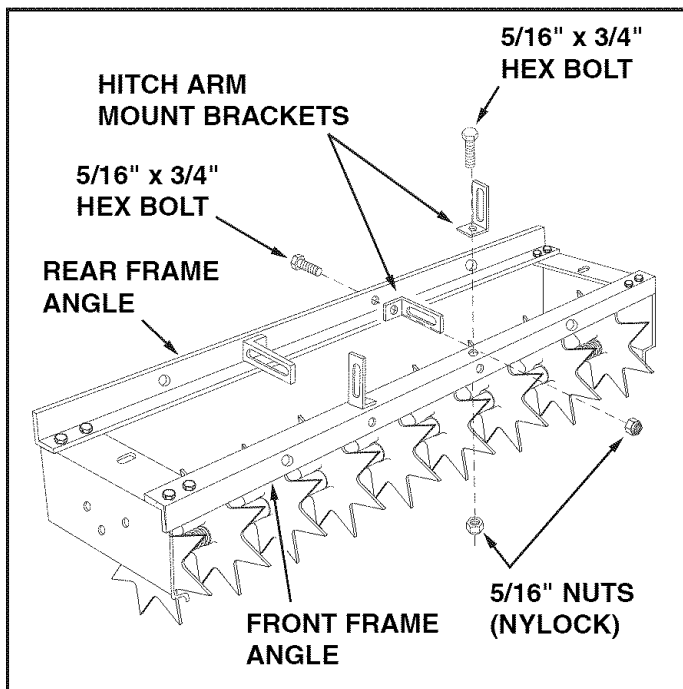
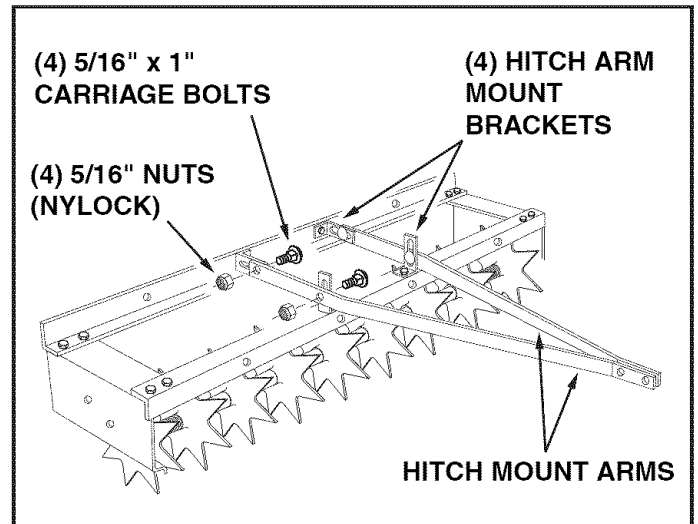
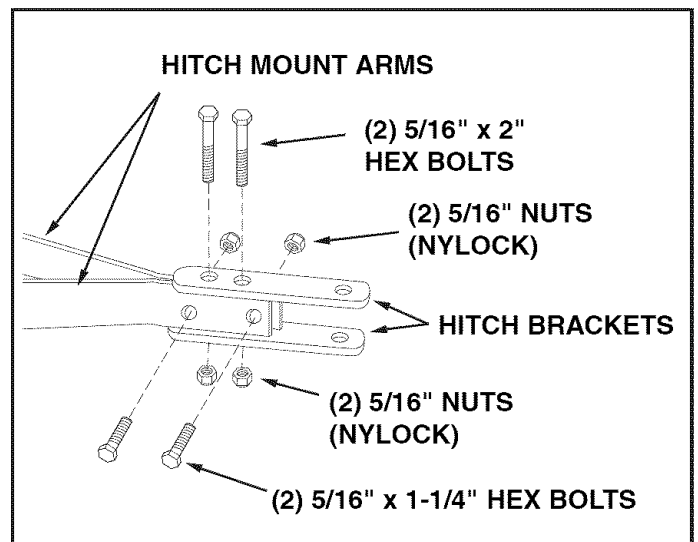

FIGURE 6
FIGURE 7
FIGURE 8
- Attach two hitch arm mount brackets to the middle holes in the rear frame angle using two 5/16" x 3/4" hex bolts and two 5/16" nylock nuts. **Do not tighten completely.** See figure 6.
- Attach two hitch arm mount brackets to the middle holes in the front frame angle using two 5/16" x 3/4" hex bolts and two 5/16" nylock nuts. **Do not tighten completely.** See figure 6
- Assemble the hitch mount arms to the **outside** of the four hitch arm mount brackets as shown in figure 7. Use four 5/16" x 1" carriage bolts and four 5/16" nylock nuts. **Do not tighten yet.** See figure 7.
- Assemble the ends of the hitch mount arms together using two 5/16" x 1-1/4" hex bolts and two 5/16" nylock nuts as shown in figure 8. **Do not tighten yet.**
- Assemble the hitch brackets to the hitch mount arms using two 5/16" x 2" hex bolts and two 5/16" nylock nuts as shown in figure 8. **Do not tighten yet.**
- **Tighten** the bolts assembled in figure 6. **Tighten** the bolts assembled in figure 7. **Tighten** the bolts assembled in figure 8.